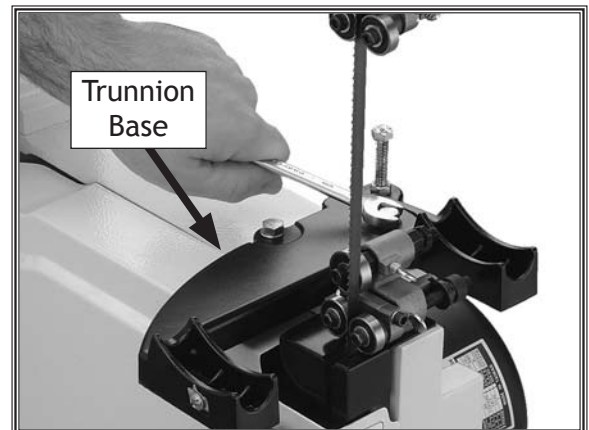

Figure 8. Installing the trunnion base.
4. Position the trunnion base on the bandsaw body as shown in **Figure 8**, then secure it in place with (2) $\frac{5}{16}$ "-18 x 1 $\frac{1}{4}$ " hex bolts and $\frac{5}{16}$ " lock washers.